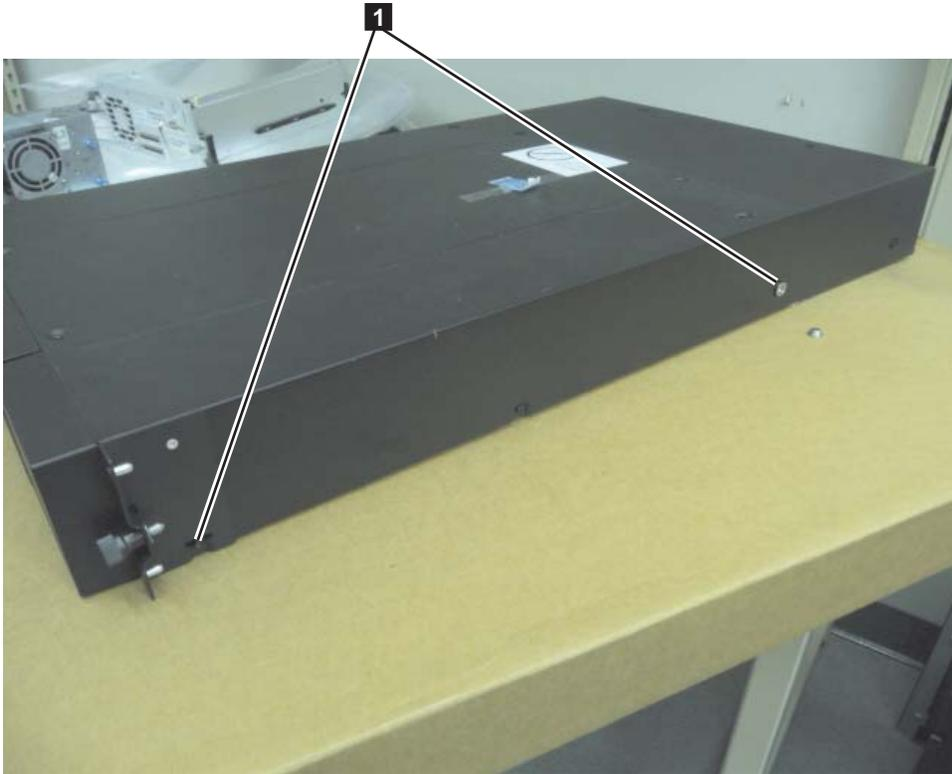

Figure 4-10. 2U library rack anchors and mounting brackets
4. With the Torx wrench included in your shipment, remove the screws ( **1** ) as shown in Figure 4-10 on page 4-11. Screw locations on the 4U library are similar.
5. Install the library rack anchors ( **2** ) as shown in Figure 4-10 on each side of your library with the longest counter-sunk screws included in the rack kit.